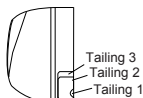

Fig. 6
- When routing pipe (wire) at right side or left side, cut off tailings of pipe left on chassis of main unit in necessary (as shown in fig. 6).